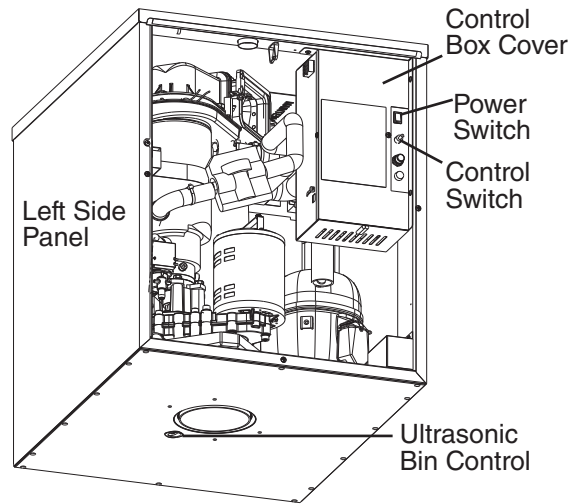
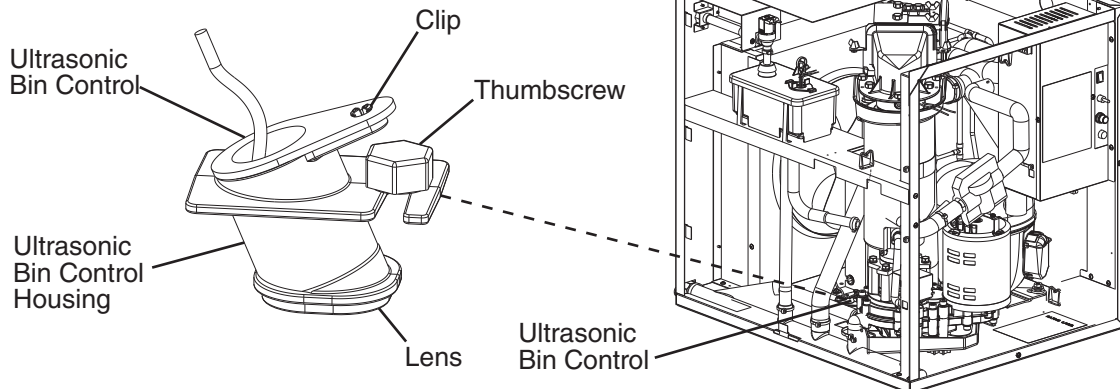

Fig. 20
Fig. 21
8) "GM" LED and "COMP" LED are on. Place an object 5" to 7" (127 to 178 mm) away from the bin control lens at the bottom of the icemaker. See Fig. 20. If the bottom of the icemaker is not accessible in your application, remove the thumbscrew securing the bin control sensor housing to the base, then remove the bin control sensor housing. See Fig. 21.